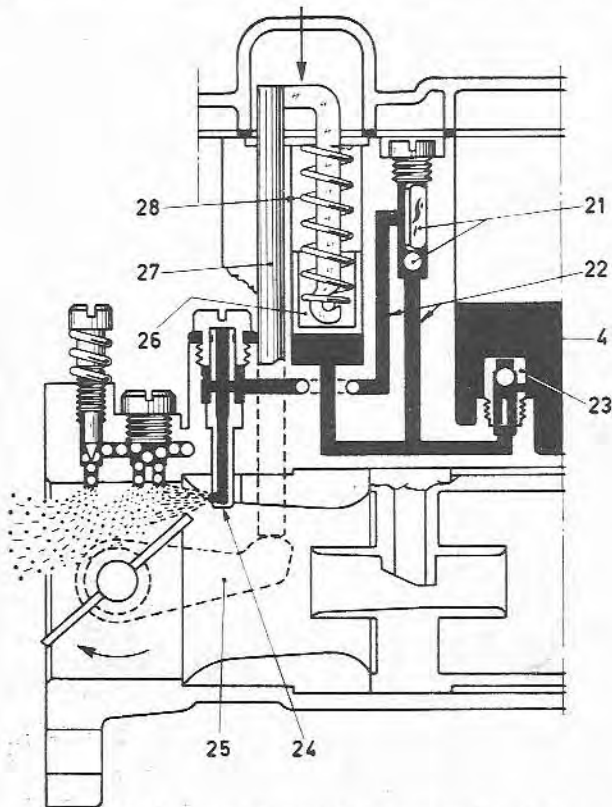

Fig. 11.10 Carburettor acceleration phase (Sec 3)
To provide the engine with a rich mixture when accelerating, the carburettor is equipped with an accelerator pump. Reference to Fig. 11.10 will show that when the throttle valves are closed, the lever (25) will lift the operating rod (27) against the pressure of the spring (28) and the piston (26) will draw fuel through the intake valve (23), along the channel and into the piston chamber. When the throttle valves are opened, the lever (25) allows the operating rod (27), together with the piston (26), to move down the piston bore under the action of the spring (28). Fuel is therefore forced along the internal channels (22), past the delivery valves (21) and through the pump jets (24) into the carburettor throats. During the pump delivery, the intake valve (23) is closed by the action of the internal ball but a certain amount of fuel is discharged back into the float chamber